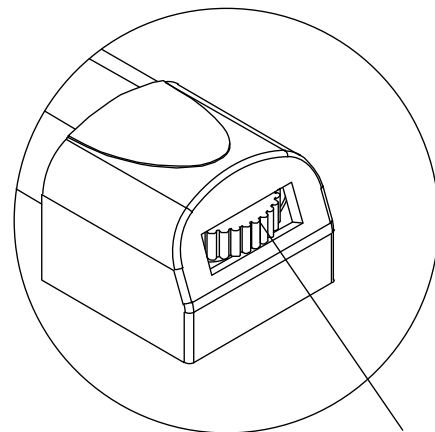

Figure 13
13. If the entire vehicle is not stable after assembly, you can rotate the wheels by hand to make minor adjustments. As shown in Figure 13: